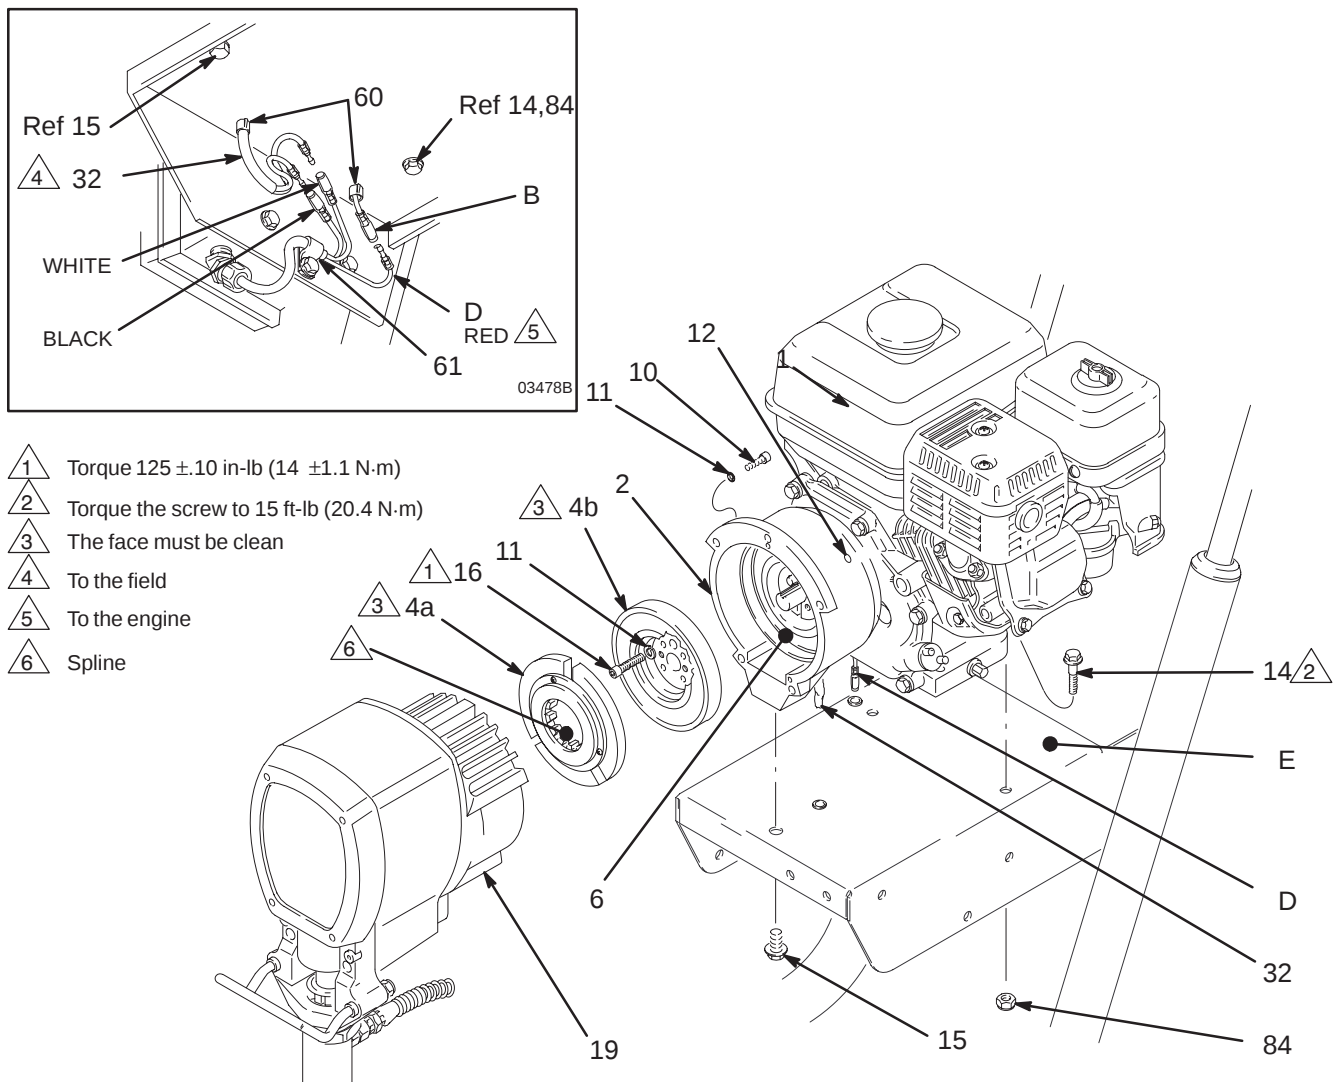

Fig. 18
5. Place the **engine (1)** assembly on the cart. Align the mounting holes. Carefully guide the engine wire (D) and wiring harness (32) from the field, through the appropriate grommets (60) in the mounting plate (E). Install the flange screws (14) and locknuts (84). Torque to 15 ft-lb (20.4 N·m). Install the capscrew (15) from under the engine mounting plate to the clutch housing (2). Connect the engine wire (D) to the red wire, and connect the black and white wires as shown in the Detail drawing in Fig. 18.
6. Be sure the face of the **rotor (4b)** and the field are free of all oil and contaminants. Remove any burrs on the outside edge of the rotor. Install the rotor, lockwashers (11) and capscrews (16). Torque the capscrews to 125 ± 10 in-lb (14 ± 1.1 N·m). See Fig. 18.
7. Be sure the face of the **armature (4a)** is clean. Assemble the armature to the shaft in the pinion housing (19). A retaining ring located within the armature makes it difficult to assemble these parts. Follow this procedure for the best results. First, lock a few splines of both parts. While they are locked, use a screwdriver to gently push the retaining ring into the armature, and finish engaging the splines. Push the armature onto the shaft until it contacts the ring (19m). See Fig. 18.
8. Assemble the **pinion housing (19)** to the clutch housing, using the capscrews (10) and lockwashers (11). See Fig. 18.